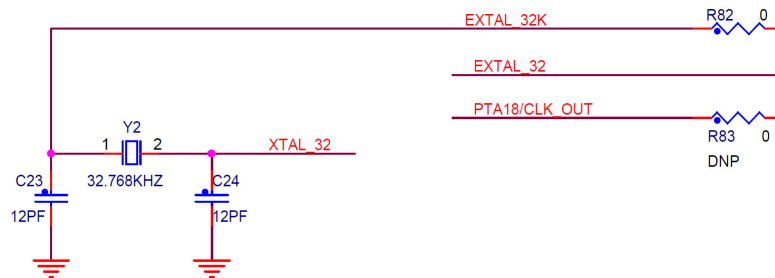

Figure 8. FRDM-KW24D512 platform's 32.768 kHz optional oscillator circuit
- Optional 32.768 kHz Crystal Oscillator: Provision is also made for a secondary 32.768 kHz crystal Y2 (see Figure 8). This oscillator can be used for a low-power accurate time base.